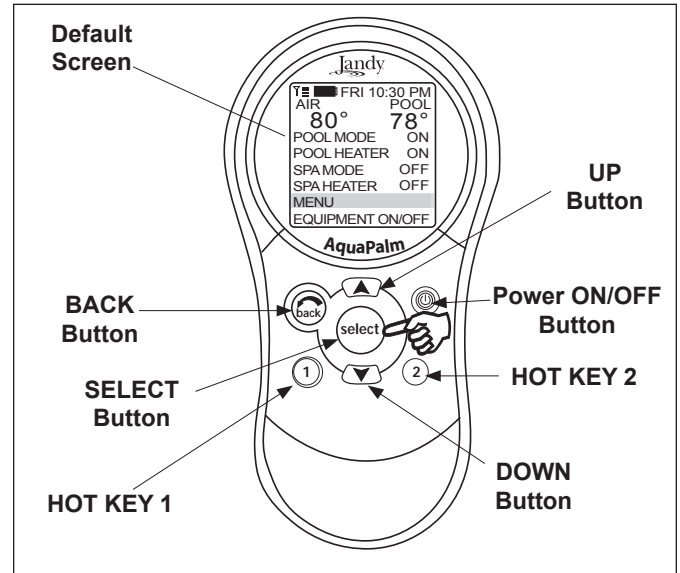

Figure 9. AquaPalm Handheld Remote Buttons
- Use the Hotkey buttons 1 or 2 (see Figure 9). See *Section 5.13* for a detailed explanation of how to program Hotkeys 1 and 2.